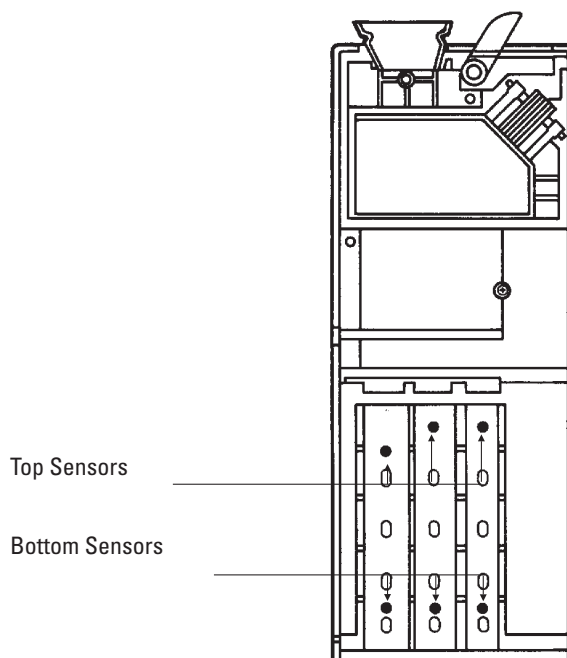

Figure 5-4:
- 1 Fill the quarter coin tube up to the top sensor (Figure 5-4).